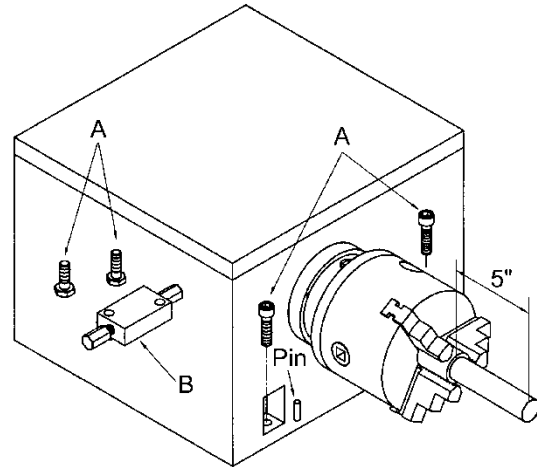

Figure 25
6. If the measurements are not the same and adjustment is required, loosen hex socket cap screws (A, Fig. 25) which holds the headstock to the bed. **Do not** loosen completely; some drag should remain.
7. Adjust two screw nuts (B, Fig. 25) located on the endgear side of the headstock. Loosen one and tighten the other. Make another cut. Keep adjusting screw nuts after each cut until the bar stock measurements are the same. Tighten all headstock screws.